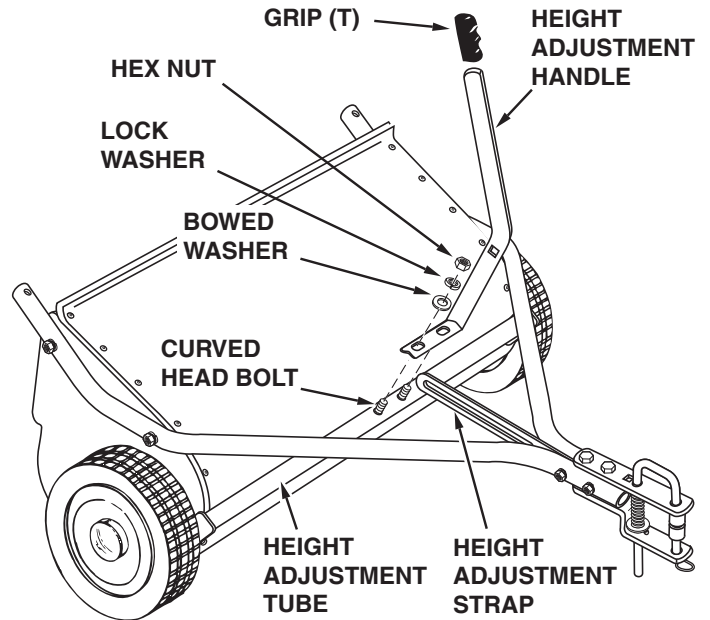

FIGURE 5
- Assemble the height adjustment handle to the height adjustment tube on the front of the sweeper housing. Use the curved head bolts, bowed washers, lock washers and hex nuts which come pre-assembled to the tube. Position the height adjustment handle side to side so that the height adjustment strap will align up against the outside of the handle and then **tighten** the nuts. See figure 5.
- Assemble the grip (T) onto the end of the height adjustment handle as shown in figure 5.